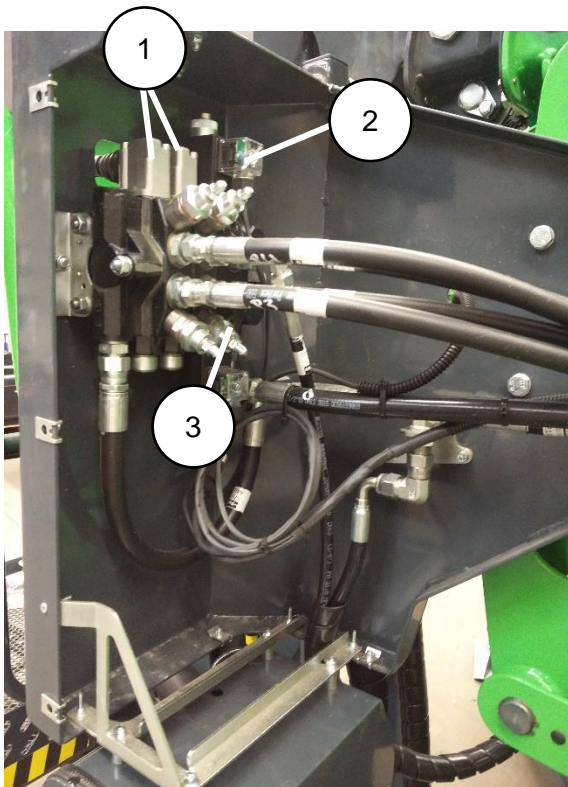

Figure 27 Pedestal valve housing
Overload control mechanism is located between the working platform and the platform support (Figure 27). Basket load is measured with a load sensor (1) which follows EN 280 -standard.